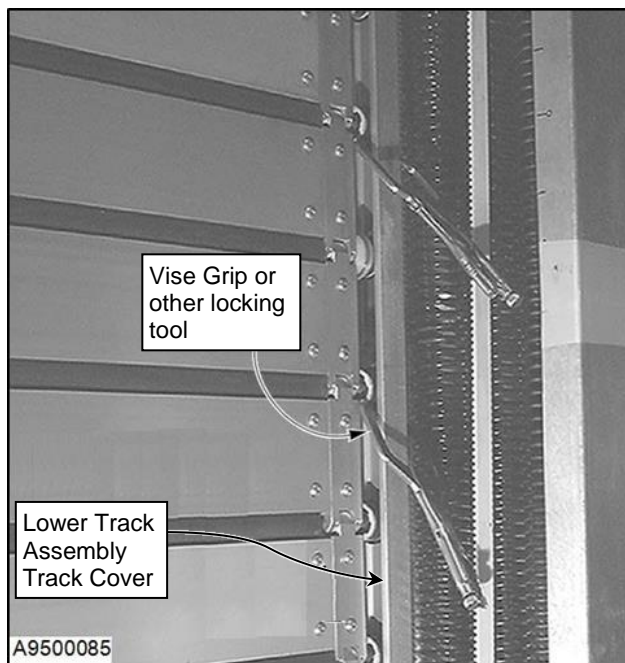

Figure 84
4. Clamp both sides of the door to the uppermost sections of track. (See Figure 84)